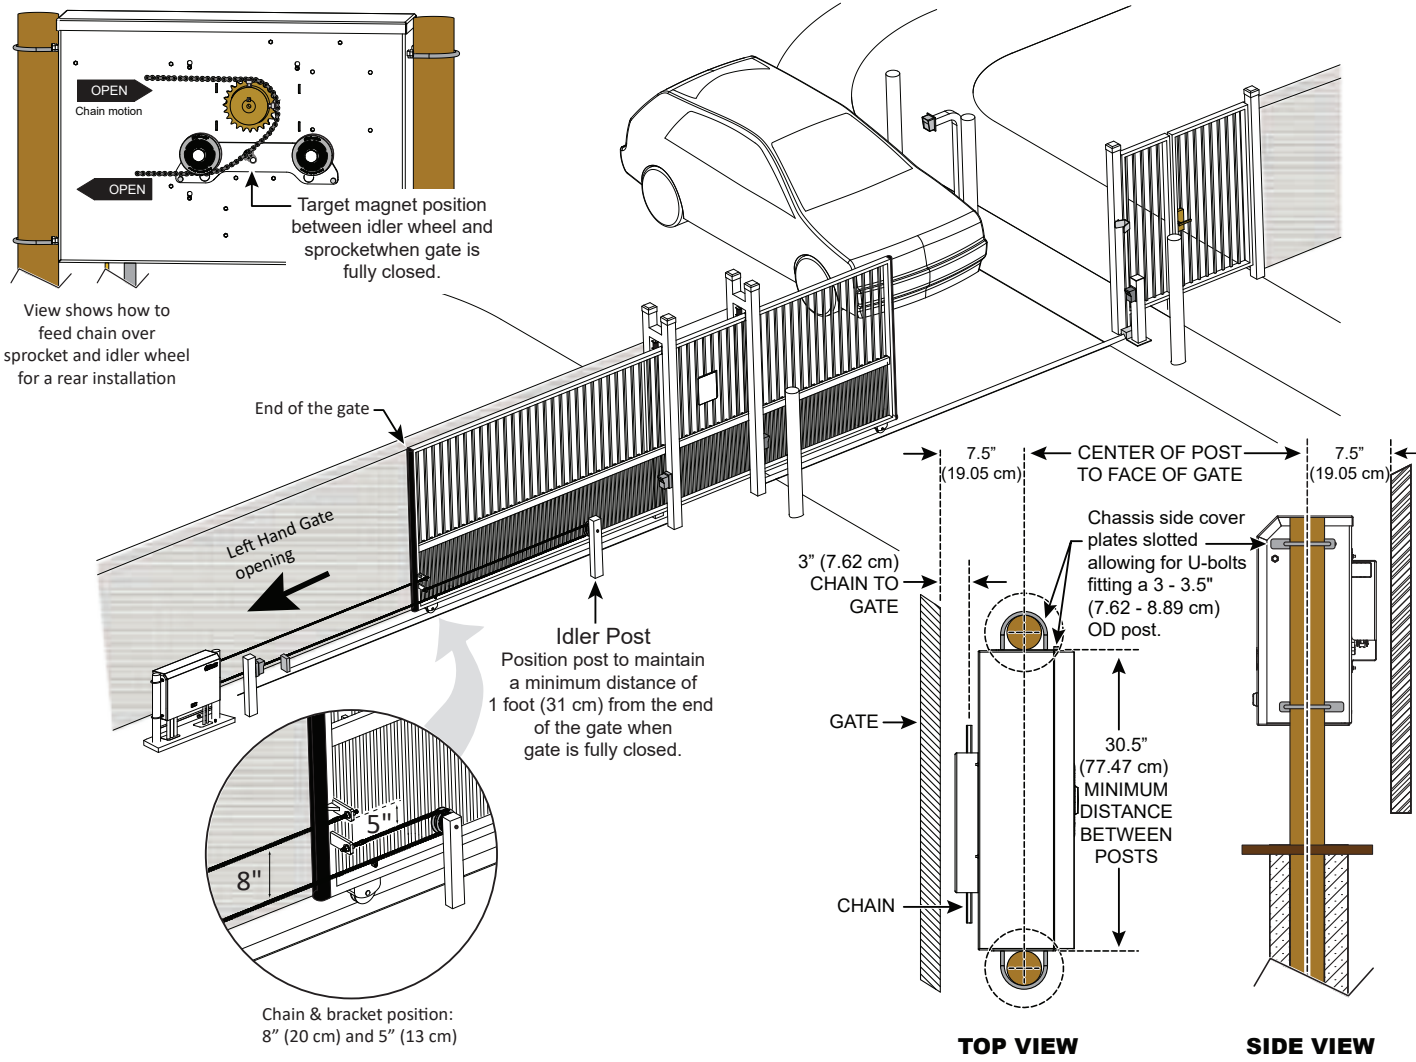

Figure 6. Rear Installation
A rear installation requires additional idler wheels and gate brackets, but it provides aesthetics as the chain is not visible along the gate. See Figure 6.
- 2. For a rear installation, see Figure 6.